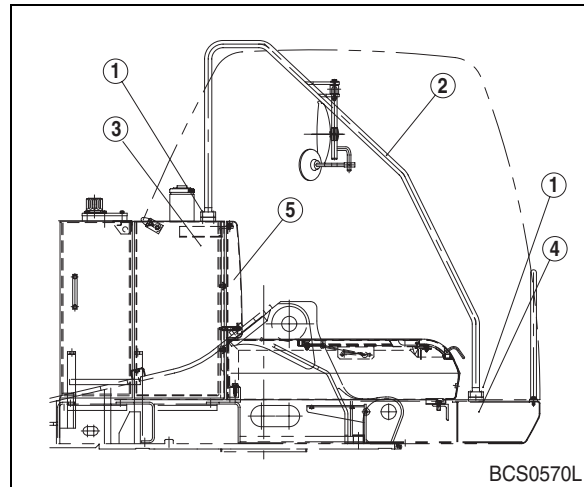

Figure 14
6. Install eight bolts and washers (1, Figure 14), and handrail (2) on fuel tank (3) and frame (4).
7. Install four bolts, washers and cover (5, Figure 14) on fuel tank (3).